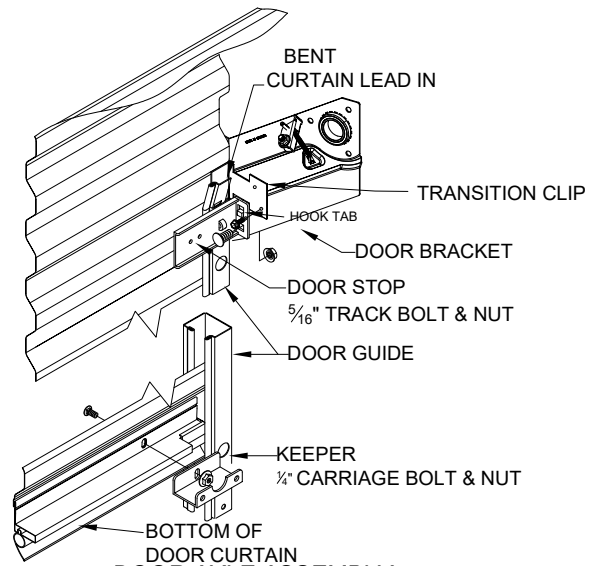

Figure 7
6.4 Slide the stops up into position so that the hook tab mates with the upper hole on the stop (See Figure 7). Fasten each door stop to each bracket as shown using one (1) 5/16" track bolt and nut through the lower hole of the stop.